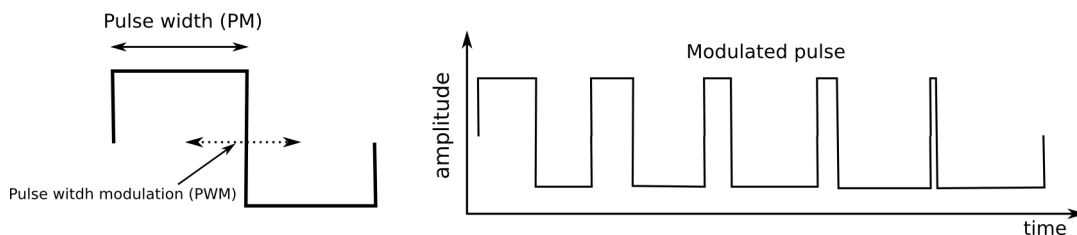

Figure 21
**The Pulse Width Modulator (or PWM)** takes the square wave and changes the ratio between the time the waveform is at maximum or minimum. The square wave corresponds to a 50% Pulse Width (**PW**). The pulse width can be set over a wide range (50% to 90%) making it possible to create a wide variety of tones from hollow and rich to nasal and thin. Figure 21. On the MicroBrute, the pulse width control can be controlled by the LFO, ENVELOPE or KEYBOARD CV OUT by patching it in the MOD MATRIX